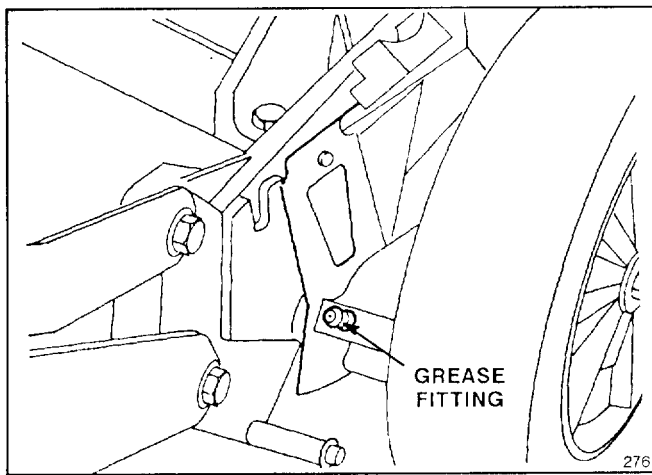

Figure 20
2. Move rear wheel height-of-cut levers to "C" setting. Wipe grease fittings with clean rag (Fig. 20). Install grease gun onto fitting and gently apply two or three pumps of #2 Multi-Purpose Lithium Base Grease.